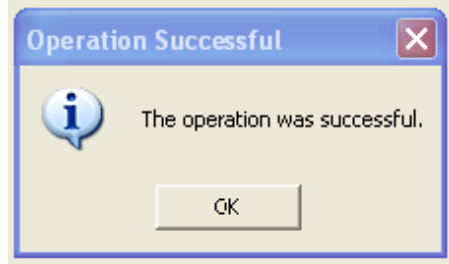

Figure 13: Operation successful message
- An "Operation Successful" message appears if the operation is successful (Figure 13). Figure 15 is an example of a single column format printout.